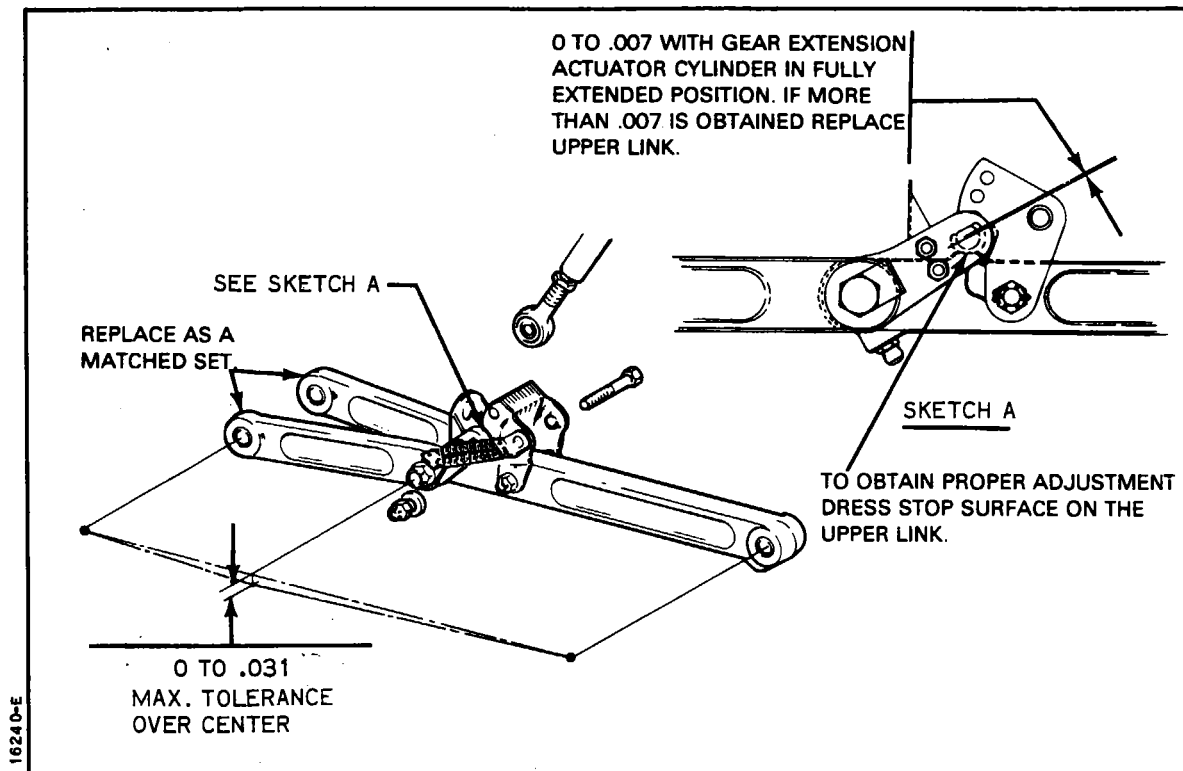

Figure 7-11. Adjustment of Main Gear Drag Link and Latch Assembly
- c. Attach the upper and lower drag links and check that there is 0 to .007 of an inch clearance between the latch hook and pin. Dress upper and lower link stop surfaces to obtain minimum clearance. Also check that when the stop surfaces touch, linkage is 0 to .031 inch through center. (Refer to Figure 7-11.) Should this distance exceed the required through center travel and bolt and bushings are tight, replace one or all drag links.